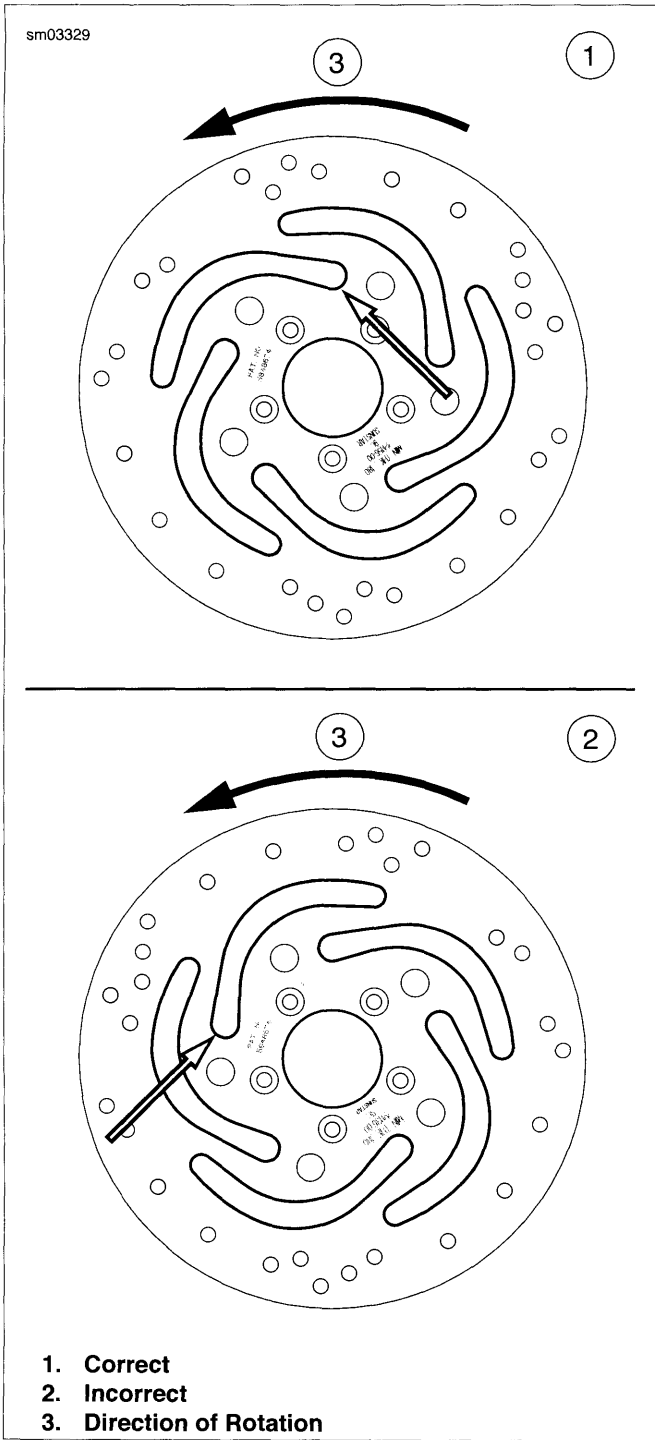

Figure 2-8. Dual Disc Orientation: XL Models (Left Side Brake Disc Shown)
- a. Install hub plate (8) on left side of wheel. Secure with **new** screws and tighten in an alternating pattern to 16-24 ft-lbs (21.7-32.6 Nm).
- b. Install brake disc (13). Secure with **new** screws and tighten in an alternating pattern to 16-24 ft-lbs (21.7-32.6 Nm).
**XL Models:** See Figure 2-8. Orient brake discs so that bulb shaped end of each slot is on the trailing edge of the slot in the direction of rotation, as shown. Note that the words "LEFT" and "RIGHT" will be located on correct sides when oriented this way.